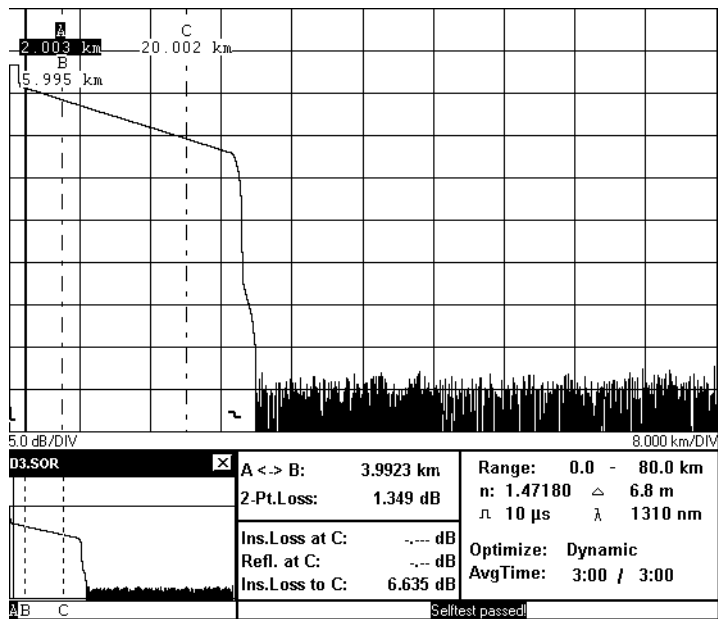

Figure D-2 Dynamic Range Test: Full Trace View
- 10 View the complete trace. See Figure D-2.